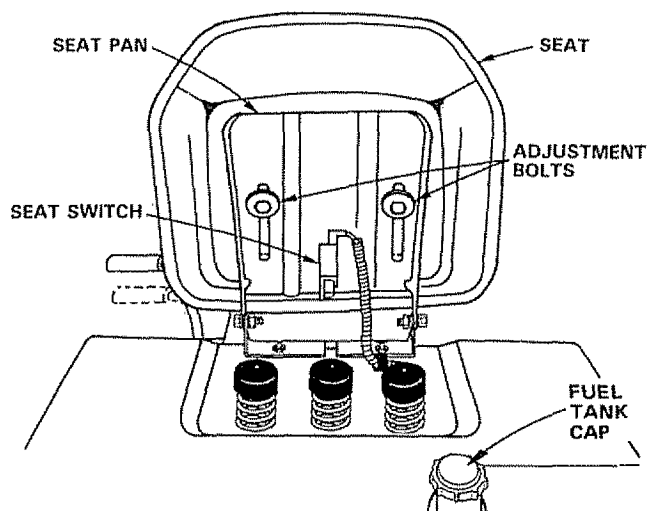

FIGURE 6
- b. Place Seat on Seat Pan. Screw Adjustment Bolts, Lockwashers and Flat Washers into Seat (Fig. 6). Adjustment Bolts, Lockwashers and Flat Washers found in Bag of Parts. Tighten finger tight.
- d. Raise Seat. Use 9/16" wrench to loosen Adjustment Bolts (Fig. 6). When adjusted for comfortable operation, tighten Adjustment Bolts securely.
2. Fill Fuel Tank (Fig. 6). Use fresh, clean, regular unleaded automotive gasoline. (Use of leaded gasoline will increase carbon and lead oxide deposits and reduce valve life). Capacity is 3 - 1/2 gallons.